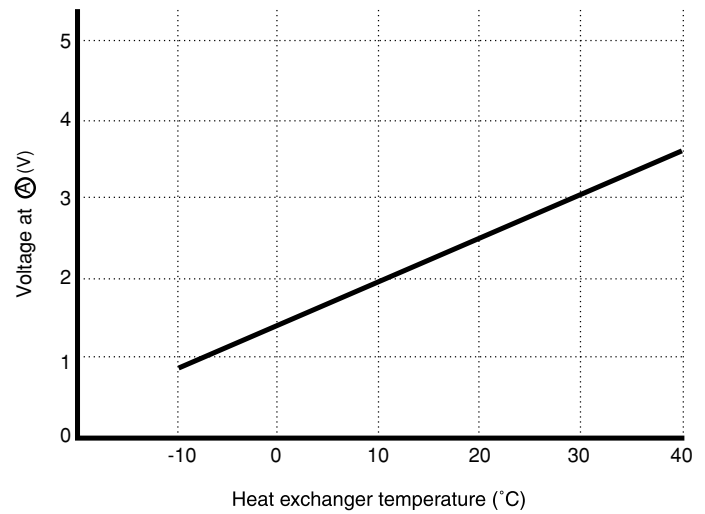

Fig. 5-2
- The voltage at Ⓐ depends on the room temperature as shown in Fig. 5-2.
The voltage at **A** depends on the heat exchanger temperature as shown in Fig. 5-2.